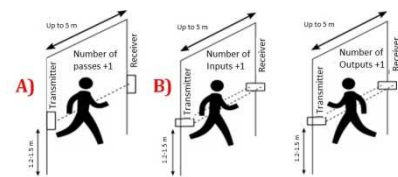

Fig. 1. Scheme of device installation
- The receiver is installed strictly opposite the transmitter, at an altitude of 1.2-1.5 m according to Fig. 1.